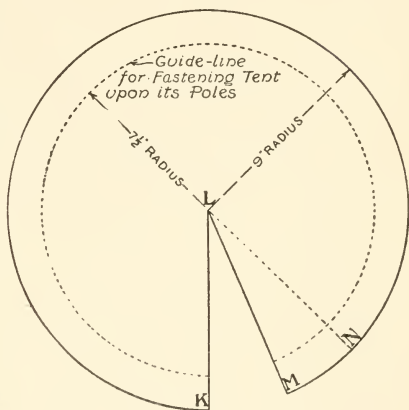

FIG. 141. — Pattern for Tent of Merry-go-round.
**The Tent** should be laid out upon heavy white paper as shown in Fig. 141. After describing a circle with a